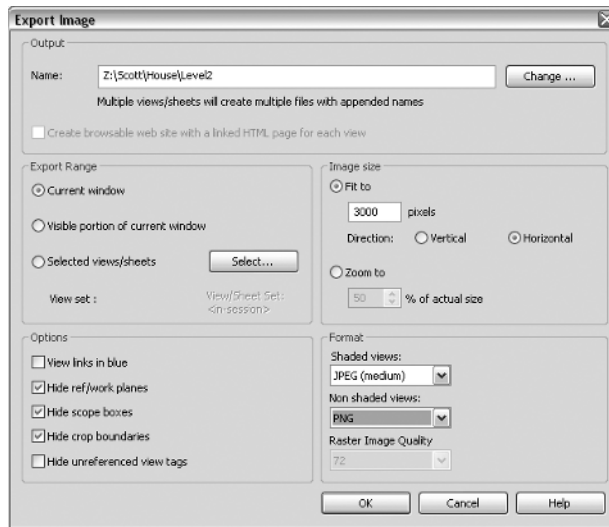

Figure 1.21 Export Image settings in Revit
6. Select Current Window in the Export Range area and set PNG as the format for nonshaded views (Figure 1.21).